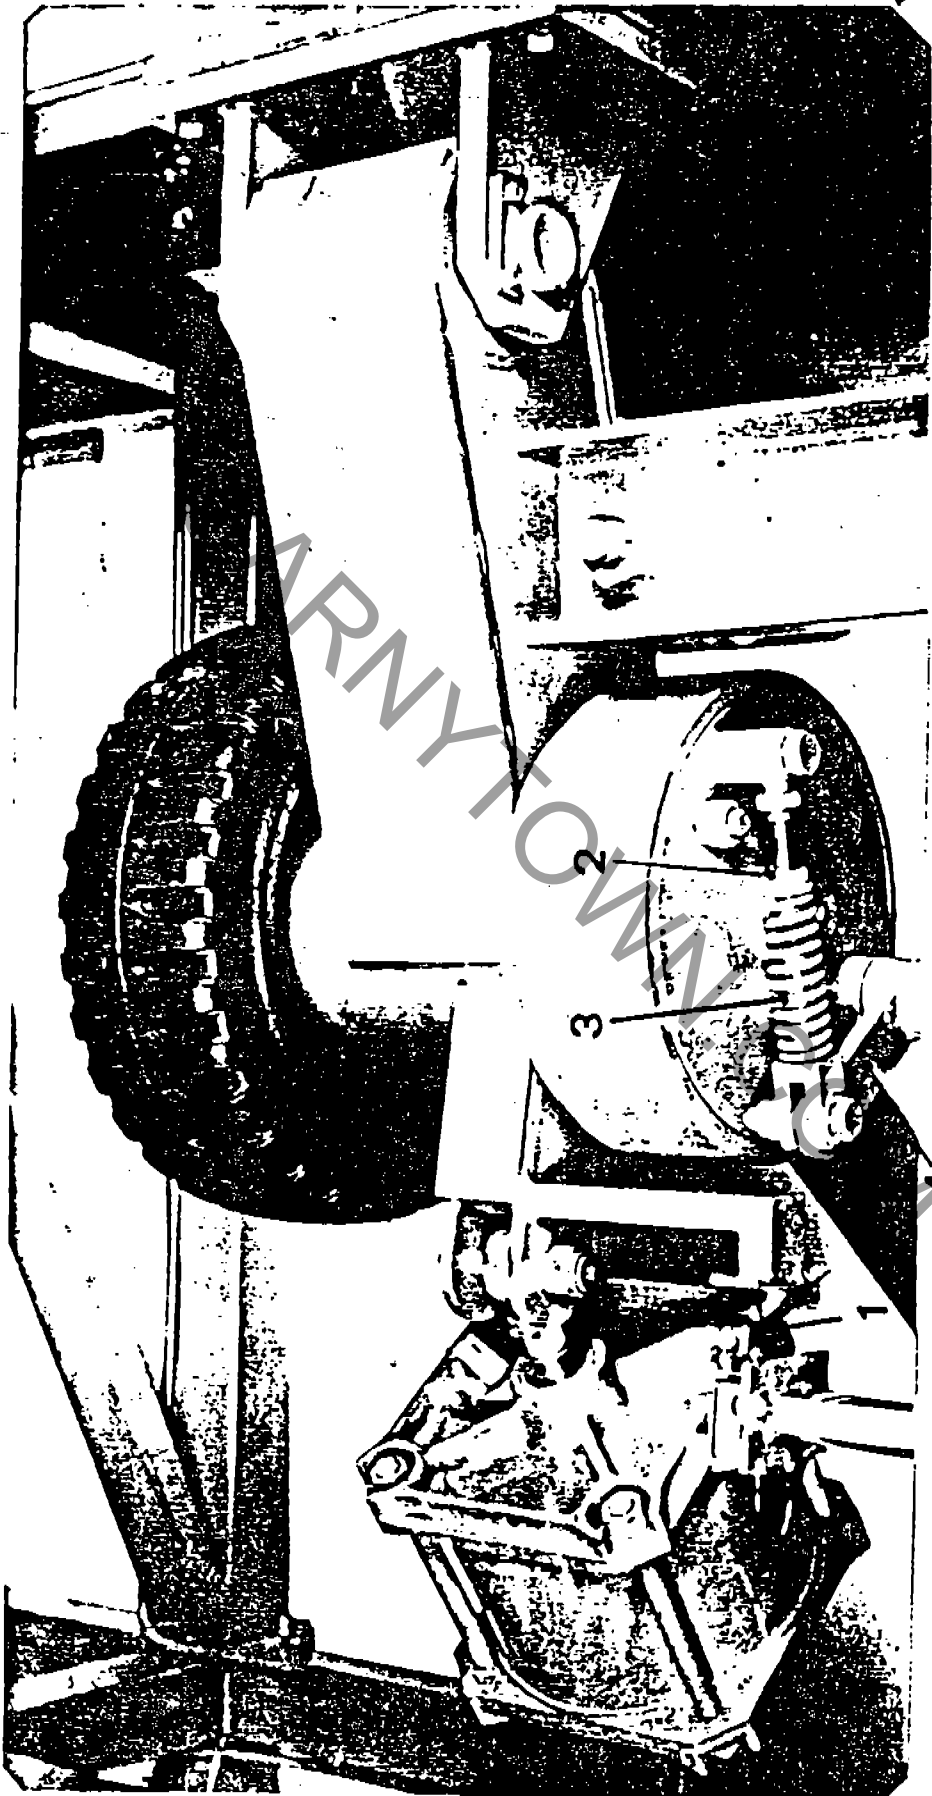

FIG. 3
- b) BRAKING ACTION. To increase or decrease the braking action, tighten or unscrew the nut (2 fig. 3) to load or unload the spring (3 fig. 3) acting on the braking lever (4 fig. 3).
- d) Check the micro-contact (1 fig. 3).